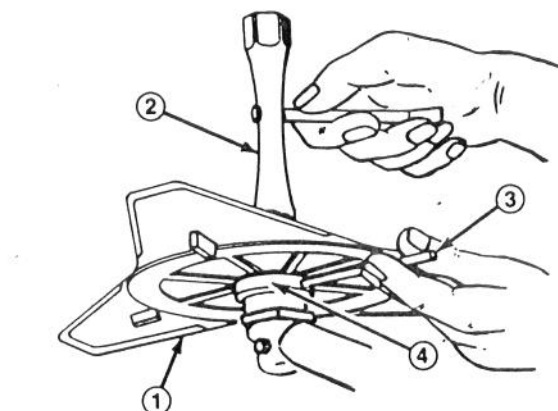

Figure 2
2. Install blade, mounting plate, and nut onto shaft (Fig. 2). Insert a locking tool (metal rod) into hole in blade fixing plate, rotate shaft until tool can be inserted through a hole in the gear case casting (Fig. 2).
3. Keep shaft from rotating with locking tool and tighten nut with wrench (Fig. 2). (Left hand thread).